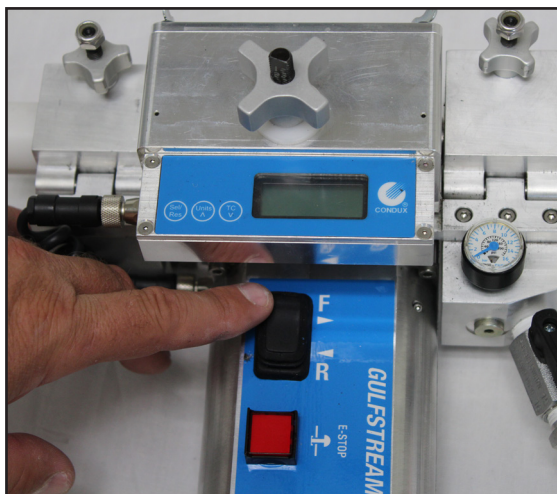

Figure 23. Tractor Drive Forward
B. Engage Tractor Drive – The tractor drive can be operated in forward and reverse. For installation, engage the tractor drive in forward by depressing the tractor drive control switch to the “F” position as shown. (See figure 23). Install the fiber into the duct using push only until the installation speed has slowed.